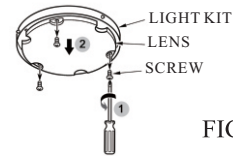

FIG.11
1. Remove lens from LED light. (see Fig. 11)